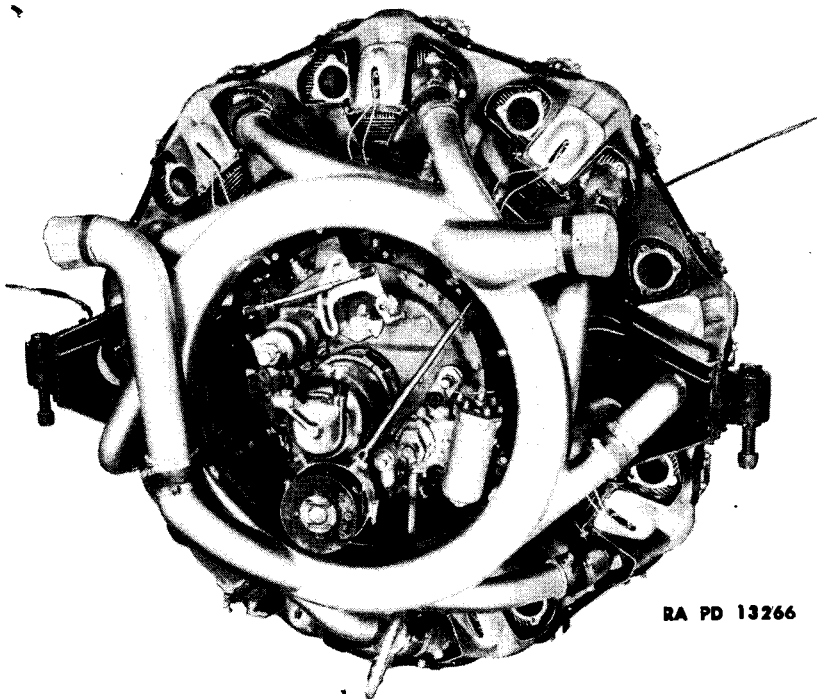

Figure 103—The Intake Manifold
152. INSTALL THE INTAKE MANIFOLD (fig. 103).
b. **Procedure.** NOTE: Care should be taken that no dirt or foreign particles have fallen into the manifold. If the elbows were not removed from the manifold, the entire assembly may be installed as a unit. Install new gaskets and place the elbows on the mounting studs at the intake ports in the position shown (fig. 103). Install nuts and palnuts (1/2-in. socket wrench). Tighten all the hose clamps, using pliers. CAUTION: The inlet ports should be covered to be sure that nothing can drop into the manifold and engine. Install the four braces on the intake manifold and the inner circle of the engine mounting beam. A flat washer is used at both the bolt head and nut (5/8-in. open-end wrench).